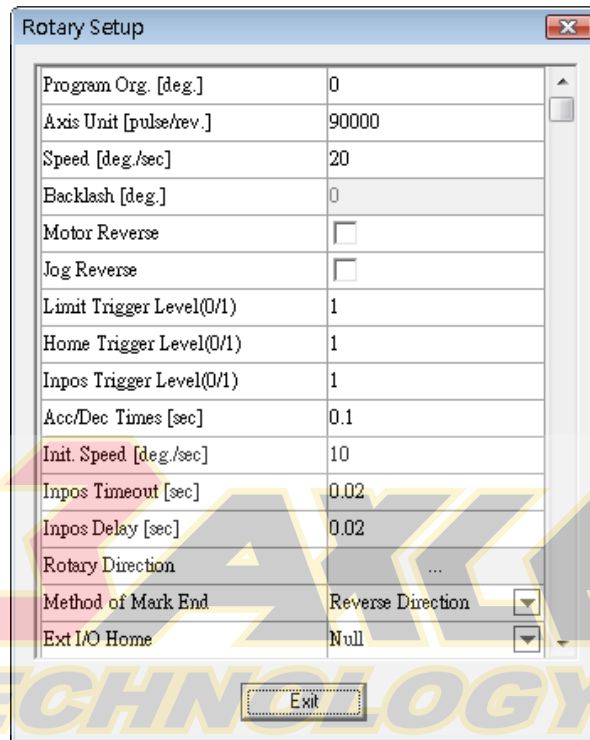

Fig. 6.2.03
6. Click “SETUP...” and do more detail settings, see Fig.6.2.03.